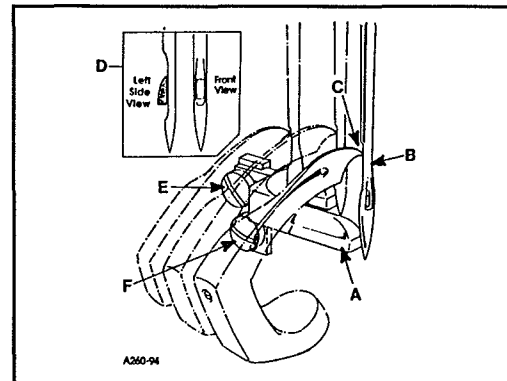
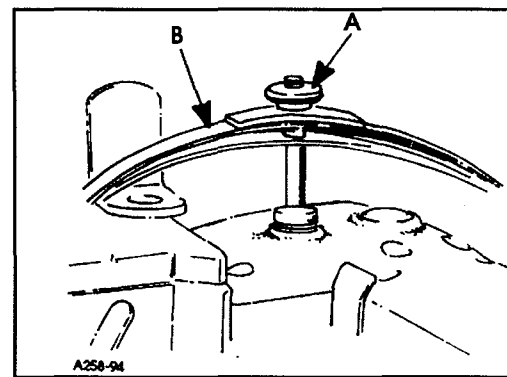
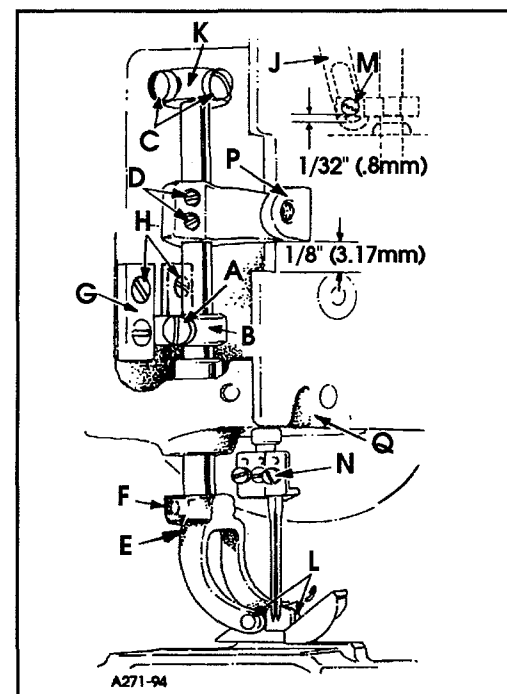

FIG. 13
FIG. 14
FIG. 15
Set the rear needle guard (A, Fig. 13) horizontally so that it barely contacts needles (B) when at its extreme forward position. If adjustment is necessary loosen screw (E) and move guard front to back as required. It should be set vertically as low as possible, yet have its guarding surface in contact with the needles until the points of the loopers (C), moving to the right, are even with the right side of the needles. If adjustment is necessary loosen screw (F) and move guard and holder up or down as required.
NOTE: When installing the needle it should be parallel with the eye in line of feed. If adjustment is necessary, loosen screw (N, Fig. 15) in needle head and rotate needle to attain adjustment (D, Fig. 13).
Remove presser bar leaf spring (B, Fig. 14) and nut (A). Loosen screw (A, Fig. 15) on presser bar guide (B). Loosen screws (C) in upper collar and screws (D) in needle lever thread pull-off lever. Slide presser bar upward high enough to slip on presser foot yoke (E) with foot attached and tighten screw (F) on flat of presser bar. Position foot so that the needle holes in the foot line up with the holes in the throat plate. Tighten screw (A)
Reinstall presser bar leaf springs (B, Fig. 14) and nut (A), with presser foot resting on throat plate.
NOTE: There should be a minimum $1/32"$ (.8mm) clearance between screw (M, Fig. 15) and the bottom of the slot in link (J).
Regulate the pressure on the presser foot same as the upper feed roller by turning the presser spring regulating nut (A, Fig. 14) located on top of leaf type spring (B) at the rear of machine.
To remove just the presser foot, remove screws (L, Fig. 15) and replace foot, retighten screws (L).